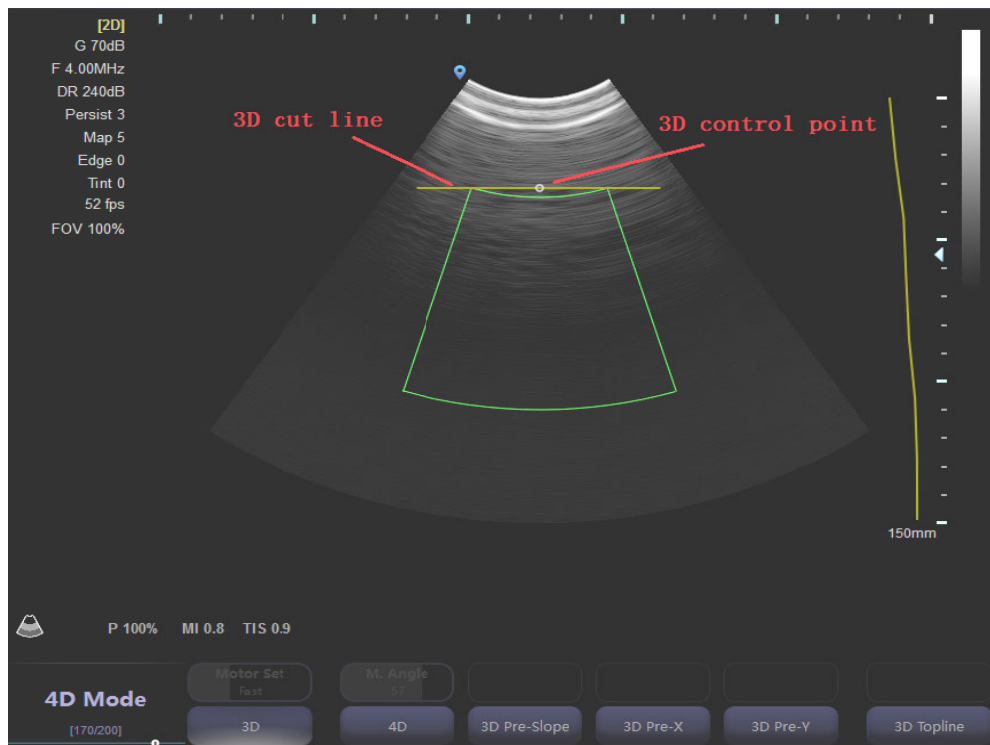

Figure 2.2 ROI Interface
- 4) In real-time B mode, press 4D button (Figure 2.1) to enter ROI selection interface (Figure 2.2);
ROI interface appears after the 4D button is pressed (Figure 2.2); use the trackball to move the yellow ROI window, press 【Set】 and roll the trackball to adjust the size of ROI window, and then press 【Set】 again to confirm. Roll the trackball to move ROI window.